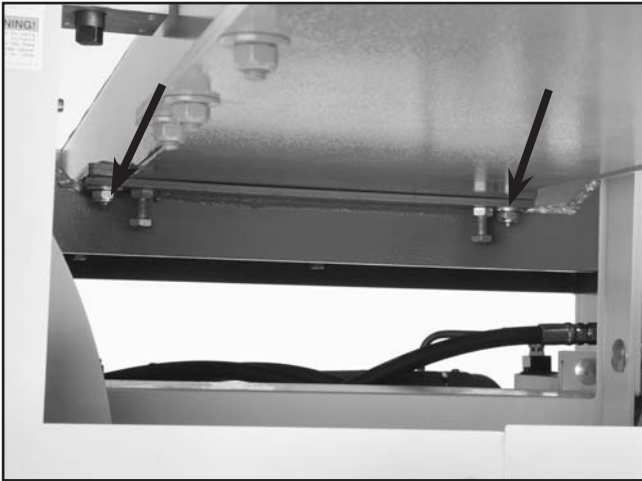

Figure 10. Conveyor washer/nut placement.
- Look under the conveyor for the carriage bolts shown in **Figure 10**. Place the flat washers and lock nuts on the carriage bolts and tighten.